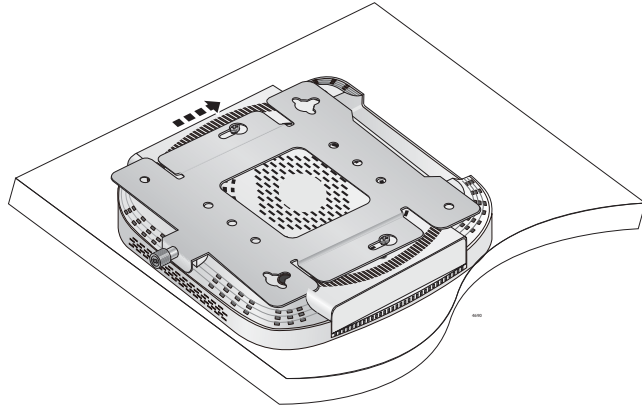

Figure 16. Seat Access Point onto Mounting Bracket
2. Slide the chassis forward until seated into the bracket keyhole slot and the bracket thumbscrew is aligned with the screw hole on the front of the chassis. Refer to Figure 16 on page 43.